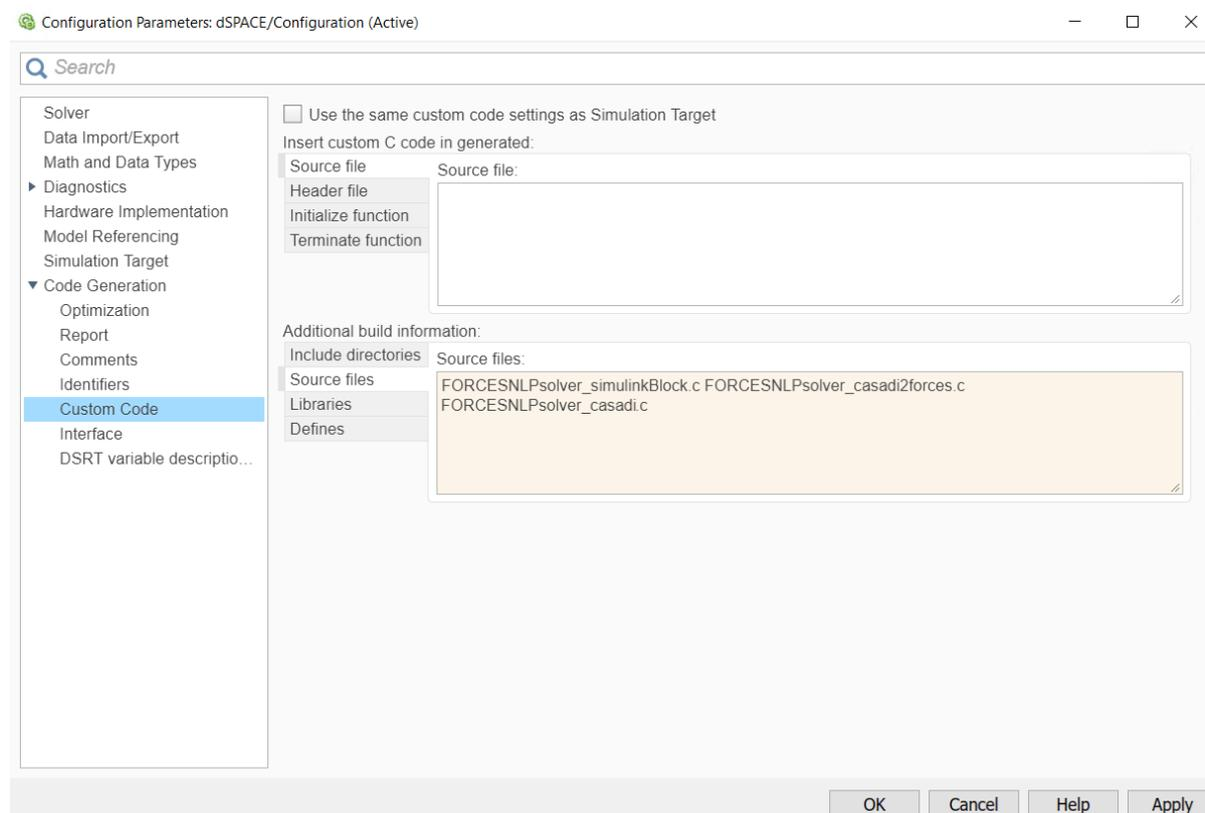

Figure 13.40: Add the source files used for the code generation.
- 11) In the "Code Generation/Custom Code" tab, add the source files (see Figure 13.40):